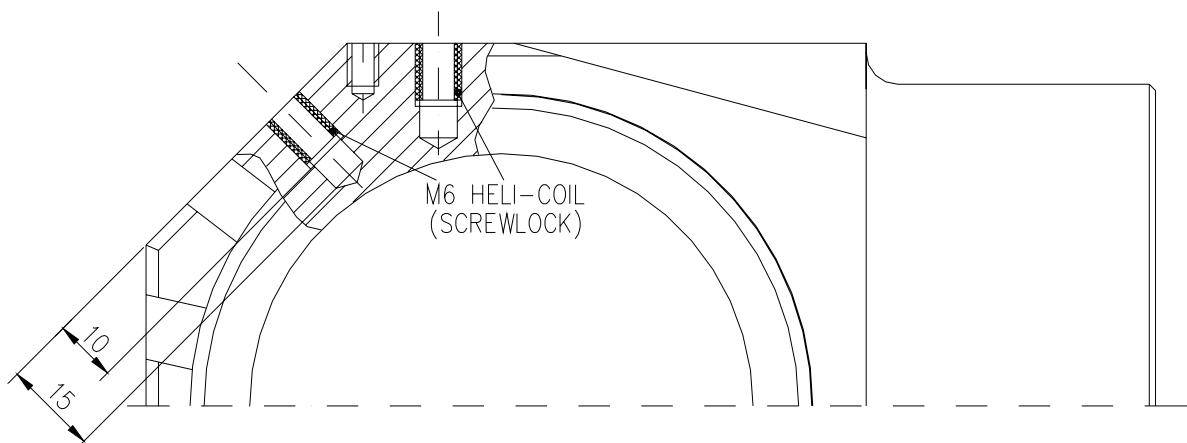

Fig.5
7. Put in the self locking Heli-Coil inserts M6x1,5d (No. 01320060009) (Fig.5).